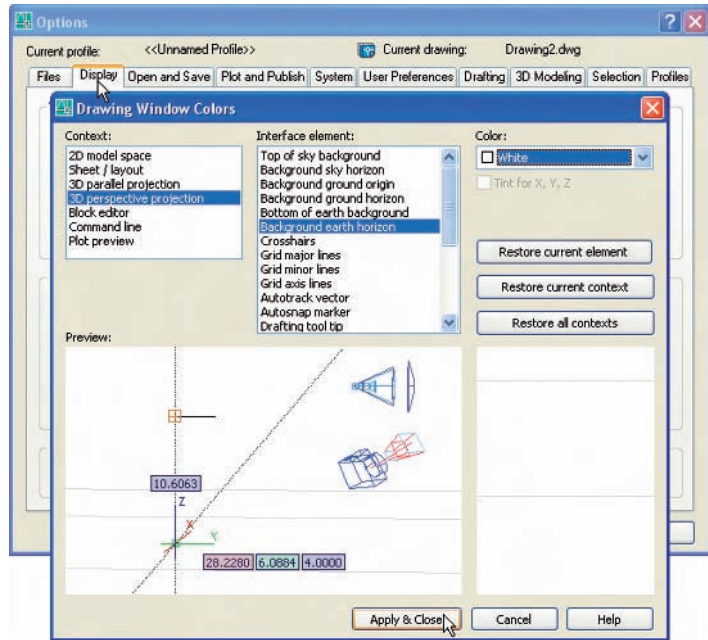

Fig. 16.3 Set all background colours to **White**
4. Open the **Options** dialog with a *right-click* in the command window. *Click* the **Display** tab followed by a *click* on the **Colors . . .** button and then set **all** the background colours to **White** (Fig. 16.3).